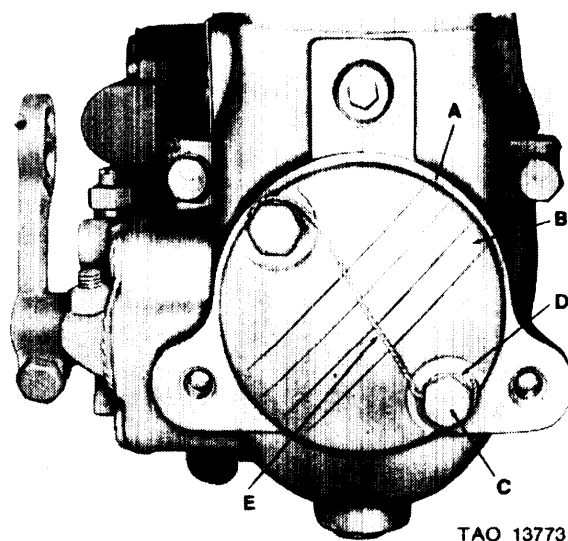

Figure 3-147. Installing governor end cap.
(5) Refer to figure 3-147. Coat end cap gasket with a thin coat of er, MIL-S-45180 on side facing end cap. Install end cap gasket (A) and governor end cap (B) and secure with two machine screws (C) and lockwashers (D). Torque tighten screws to 50-60 inch-pounds and secure with locking wire (E).